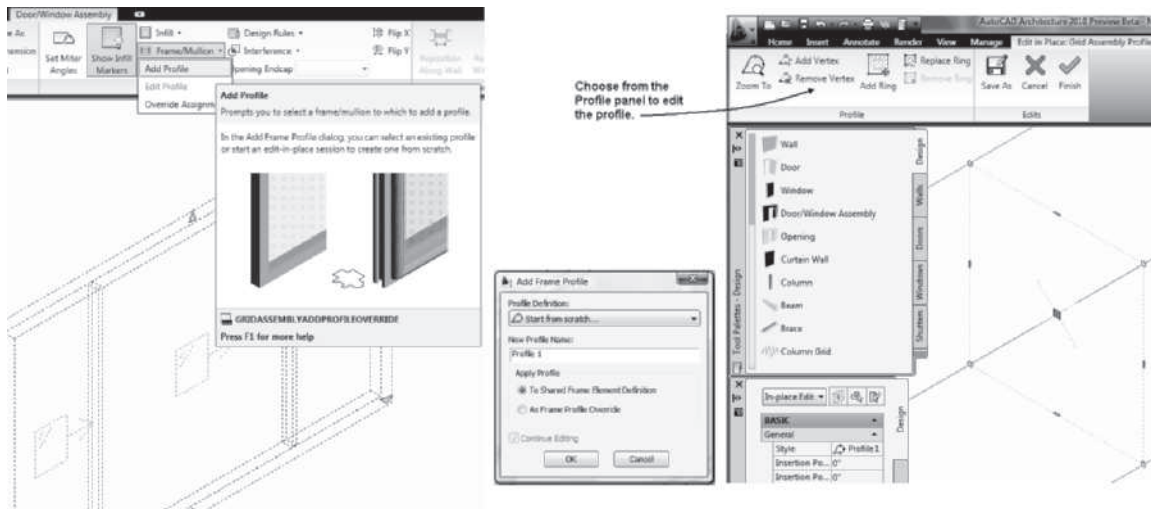

FIGURE 6.20 Editing a frame profile
Ribbon	Select the door/window assembly, and choose Add Profile from the Frame/Mullion flyout menu as shown in Figure 6.20.
When you select the **GridAssemblyAddProfileOverride** command, you are prompted to select a frame or mullion. The **Add Frame Profile** dialog box opens if you are editing a frame, which allows you to select a profile from the drop-down list. The drop-down list includes **Start from Scratch** and other profiles that have been created in the drawing. The **Start from Scratch** option creates a new profile, numbered as shown in Figure 6.20. The profile can be applied as a shared frame element definition or as a frame profile override. The **Add Profile** command was used to change the frame as shown in the following steps.
2. Select a frame or mullion as shown in Figure 6.20. The **Add Frame Profile** dialog box opens as shown in Figure 6.20. Specify the name of the new profile or use the **Start from scratch** default name. Click **OK** to dismiss the **Add Frame Profile** dialog box and begin in-place editing.
4. Select the profile, right-click, and choose from the Profile panel of the ribbon to edit the profile. Choose **Finish** to save changes as shown at the right in Figure 6.20.